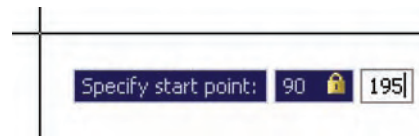

Fig. 3.26 Dynamic Input – first example – Polyline – the first prompt
2. To start the construction *click* at any point on screen. The prompt for the **Polyline** appears with the coordinates of the selected point showing. *Left-click* to start the drawing (Fig. 3.26).